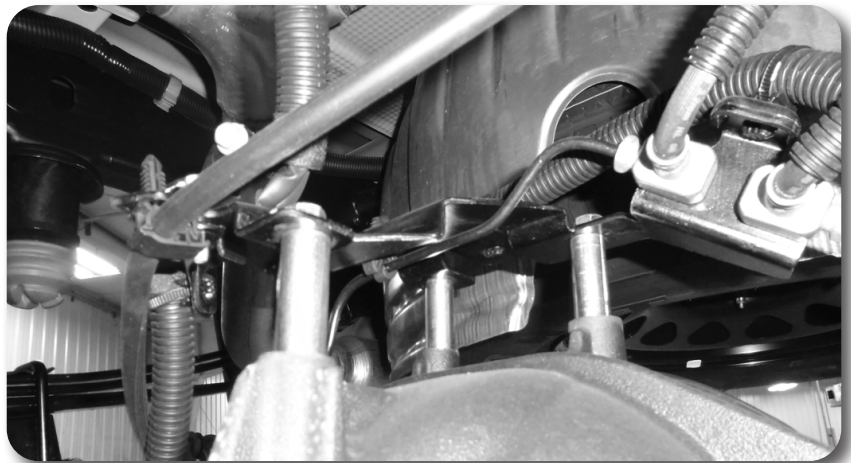

Figure 8
18. Install the (3) provided 5/8" Spacer tubes underneath the brake line / ABS bracket on the top of the rear differential. Use the provided 8mm bolt, washer, and Loctite to attach the brake line / ABS bracket to the differential Fig. 8. Tighten hardware to 11 ft-lbs.